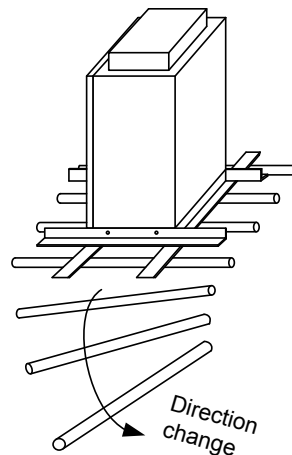

Figure 3.1-11: Change of transportation direction
- (4) Install rollers of which the diameter is approx. 50 mm and of which the length is 300 mm longer than the cabinet to the bottom of the cabinet, and slowly move the product following the instructions given below as checking the safety.
- (5) When the traveling direction is changed, shift the protection plates little by little to the new direction as shown in Figure 3.1-11.